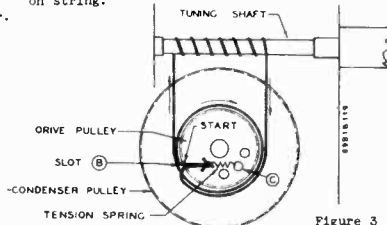

Figure 3
6. In a clock-wise direction, wind cord one full turn around drive pulley and up to tuning shaft. (See Fig. 3.)
7. Route cord 7 turns around tuning shaft as shown in Fig. 3 and down to drive pulley.
9. Knot the two ends of cord together inside of drive pulley and fasten one end of spring to cord and the other end to hole (C) in condenser pulley.